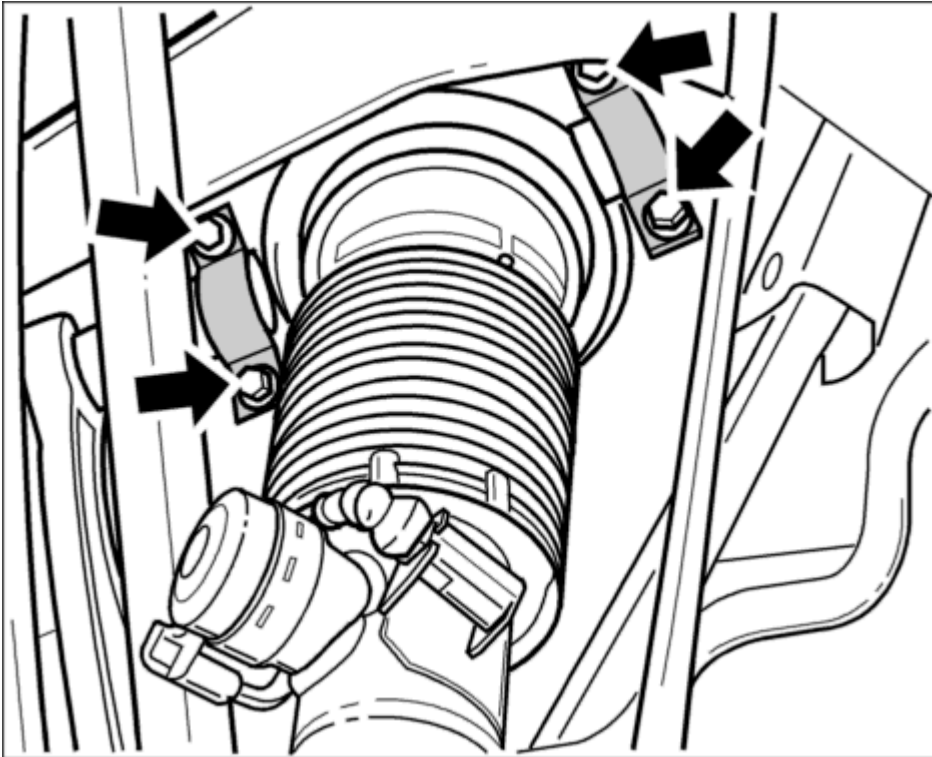

Fig. 69: Spring strut fastening screws (top)
7. Remove the four fastening screws (top) -arrows- . See **Fig. 69**.